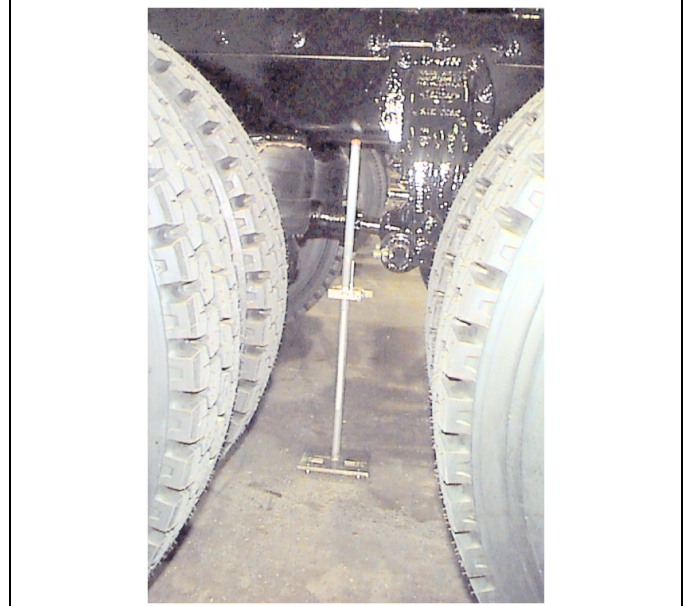

Figure 15-6
- Raise the gauge's internal calibrated slider to contact the bottom of the frame rail flange. See Figure 15-6.